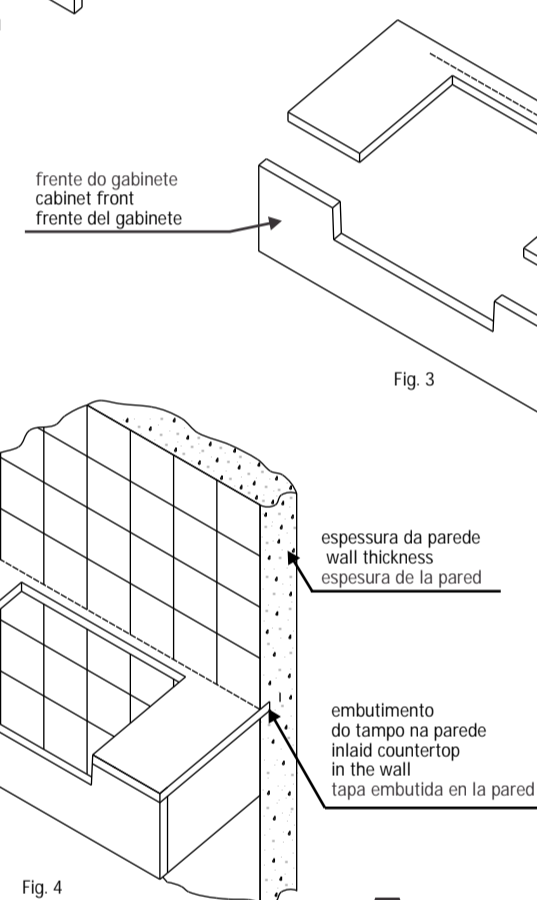

Fig 3
- 3 - Recortar o tampo e a frente do gabinete de acordo com a linha de corte do gabarito. Conforme fig. 3
- 3 - Cut the countertop and cabinet front according to the pattern. According to figure 3.